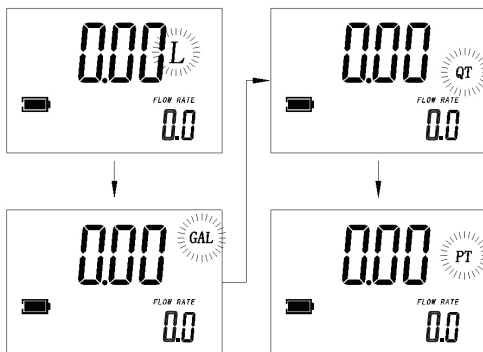

Fig. 6
- **Measurement unit change (See Fig. 6)**